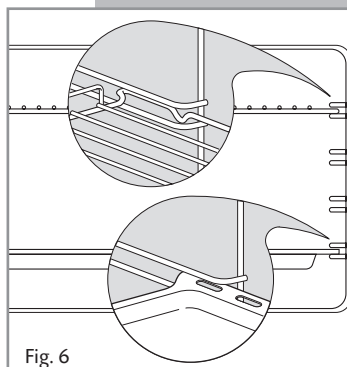

Fig. 6
- Slide the tray and rack into the runners (Fig. 6). The rack must be fitted so that the safety catch, which stops it sliding out, faces the inside of the oven.